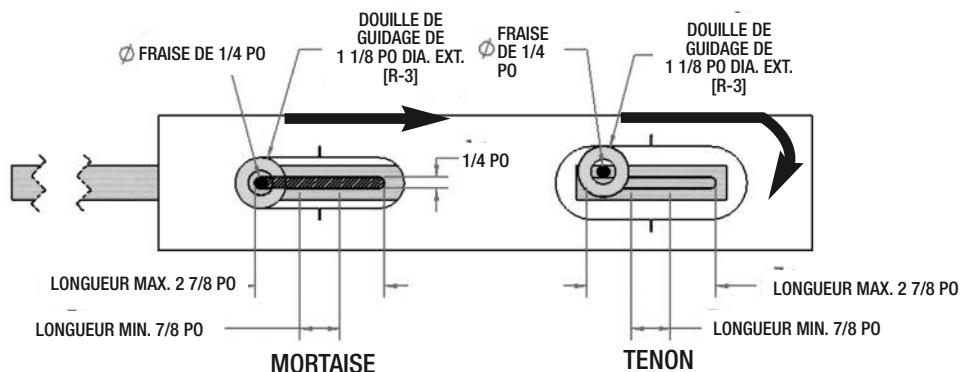

Fig. 27
- Pour fabriquer la mortaise de 3/8 po correspondante, changez le manchon de guidage de 1 1/8 po [R-3] (fig. 27).
On a 3/4" thick piece of wood if you cut a 3/8" tenon with the 3/8" bit. This will create joints with no fence. Simply use the corresponding bushings as directed on Fig. 27 on page 13 of the instruction manual for mortise and tenon sections.